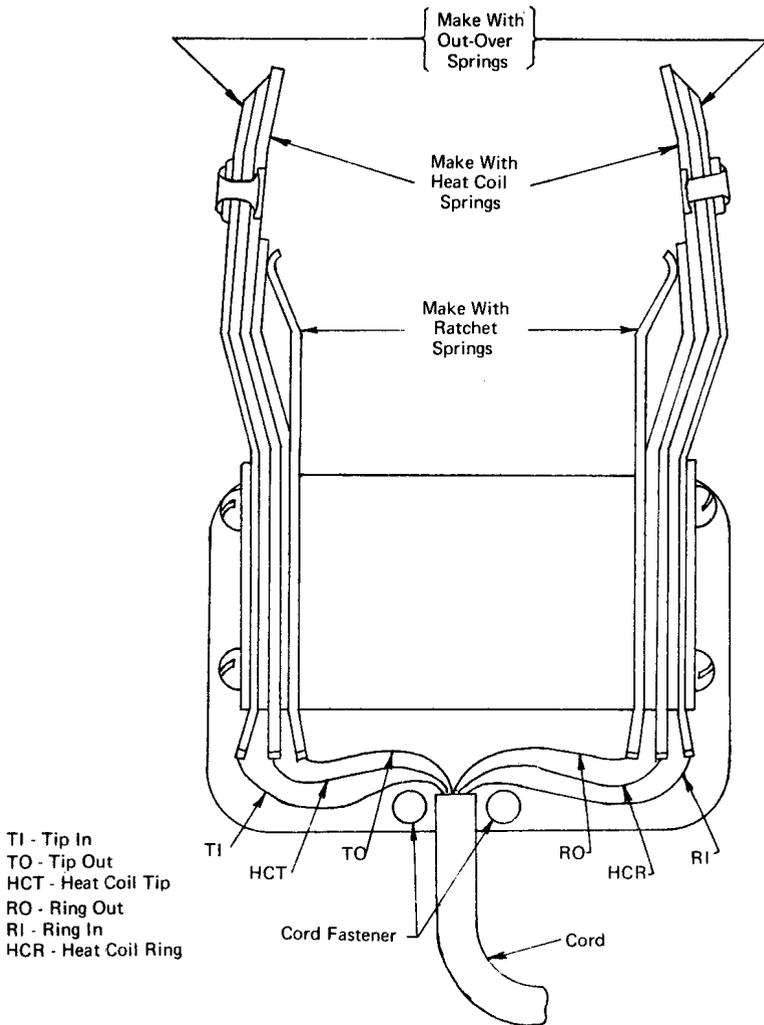

FIGURE 2. Cook 3800 Test Plugs (Shoes)
- (2) The *test plug* (shoe) shown in Figure 2 is designed to fit the type 3800 protector. Test plugs are used to test line circuits through or around the heat coils. The test plug divides the circuit so that tests can be made looking either to the outside plant or to the central office equipment.
- (3) *Carbon protector blocks* (also known as carbon blocks, protector blocks, open space cutouts, or carbons) are essentially lightning arresters. They serve to protect the central office equipment from excessive voltages which might result from power contacts and protect the outside plant from the effects of lightning.
- (4) The plain carbon block fits into a groove of the protector mounting base which is grounded. If the line becomes crossed with a power circuit or is hit by lightning, the high voltage impressed on the line causes an arc to form across the air gap to the grounded block, effectively shunting the line to ground and dissipating the voltage. Frequently the protector blocks show marks of arcing after a foreign voltage has been discharged through the blocks to ground. Whenever heat coils are replaced, remove and inspect the protector blocks and inner surfaces for discoloration or pitting. Discolored, pitted or broken blocks should be replaced.